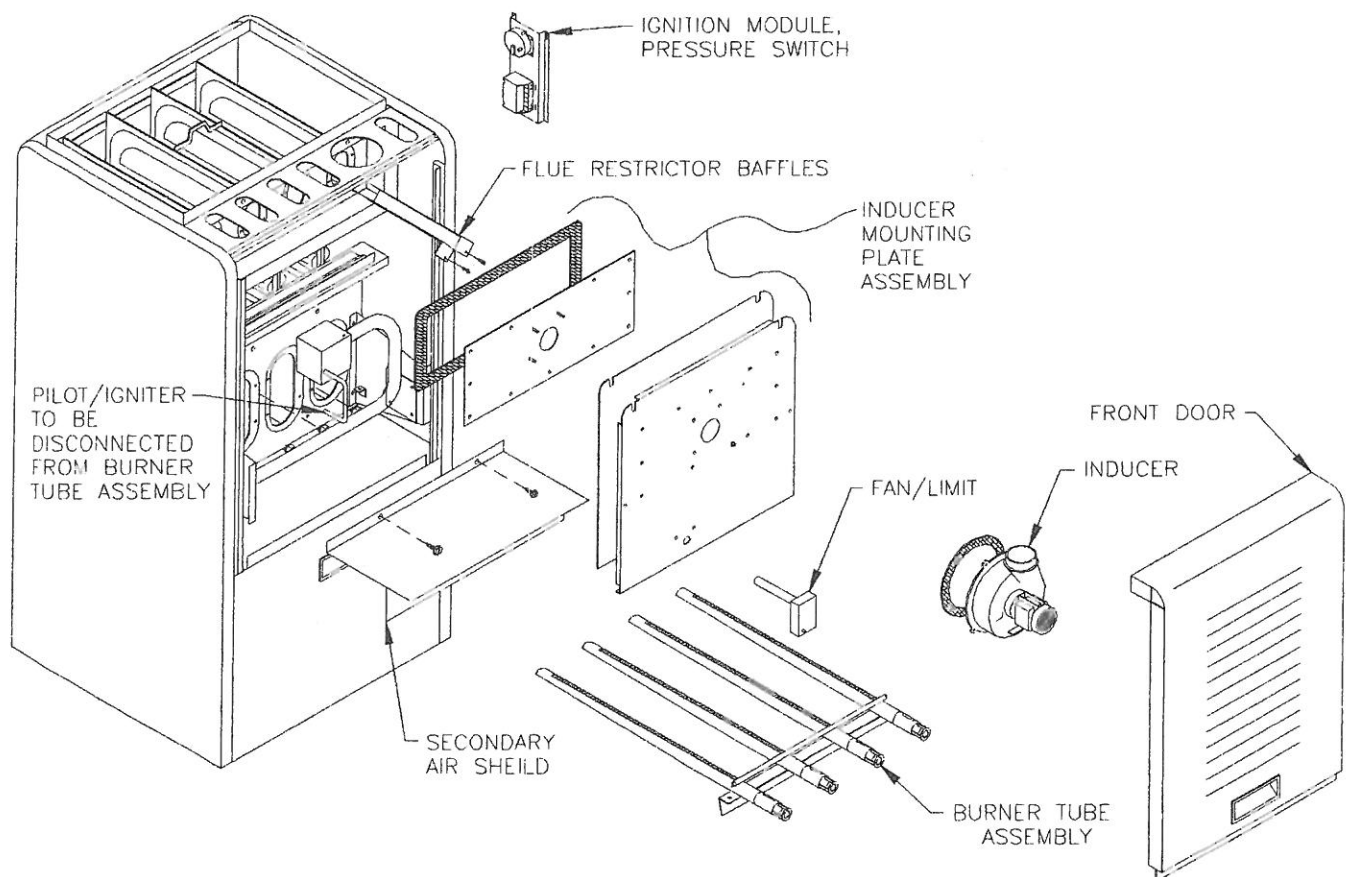

Figure 12
2. Burners - Remove burner shield and then burner. Each burner tube should be inspected and if necessary, wire brushed using compressed air to blow out the inside of each tube. (Figure 12).